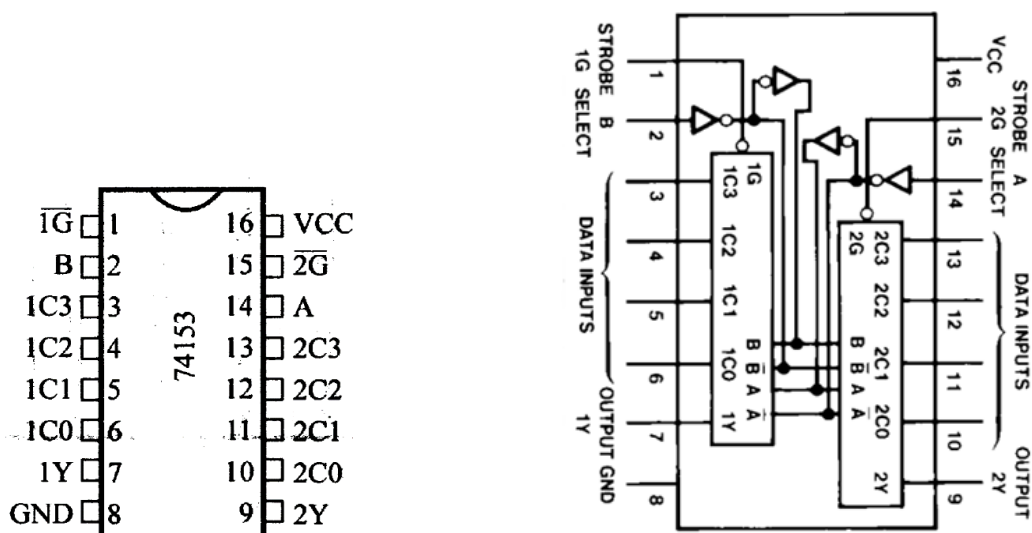

Figure 2: Pin diagram of IC 74153 and internal connection diagram
There are four input lines, I0, I1, I2 and I3, which are to be multiplexed on a single line output line (Y). The four input lines are also known as the Data Inputs. Since there are four inputs, there is need of two additional inputs to the multiplexer, known as the Select Inputs. The purpose of select inputs is to select, which of the input line can be connected to the output line. Call these select lines S1(A) (MSB) and S0(B). The pin diagram of IC74153, which is dual 4:1 Multiplexer IC is shown below in **Figure 2**.